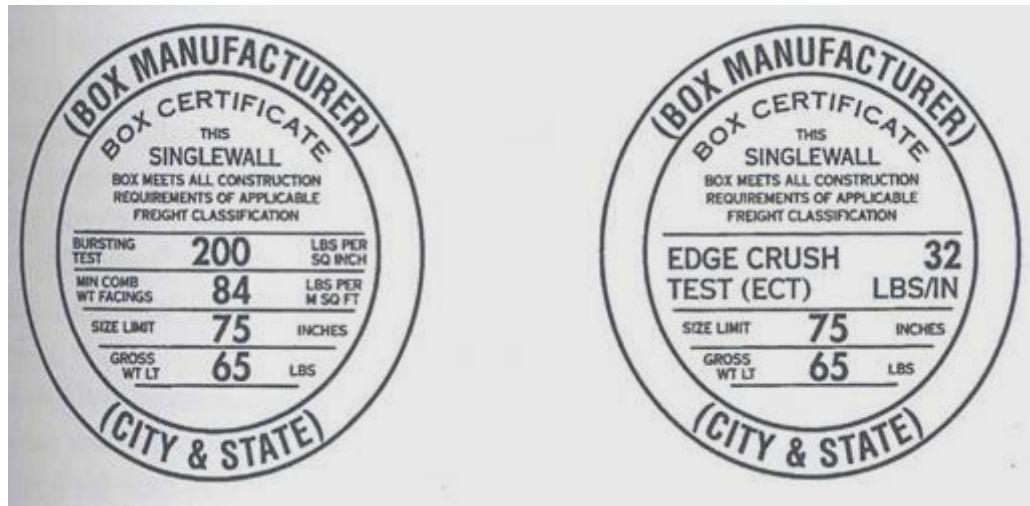

Figure 4.11 Box manufacturer's certificates using burst test and ECT values
- Table 4.6 summarizes the construction requirements for corrugated boxes. The rules also require that a box manufacturer's certificate (BMC) on the bottom of the container (Figure 4.11).